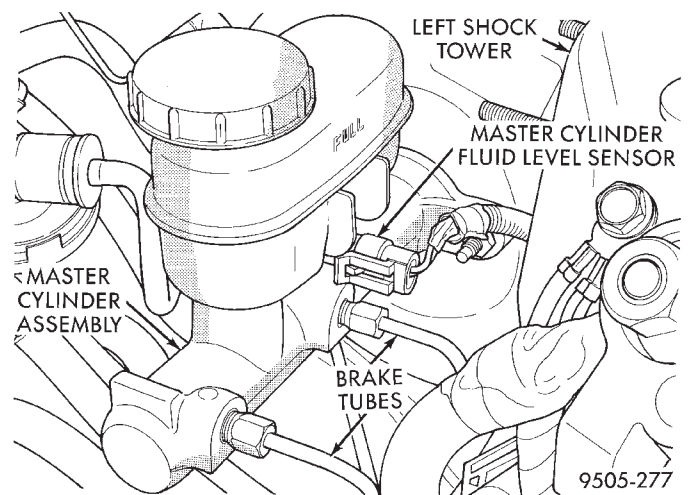

Fig. 73 Master Cylinder Brake Fluid Level Sensor
(9) Remove the vehicle's wiring harness connector from the master cylinder brake fluid level sensor (Fig. 73).
- (11) Install the vehicle's wiring harness connector on the master cylinder brake fluid level sensor (Fig. 73).